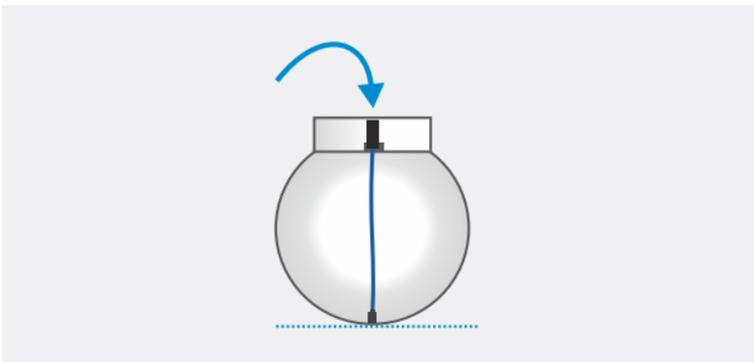

Fig. 6 | Insert the capacitive probe into the tank
**Installing the capacitive sensor:** Insert the blue measuring probe of the capacitive sensor completely into the tank and make sure that there is a minimum distance of 5 cm between the blue measuring probe and the inner tank walls in all directions. The weight of the measuring probe rests on the tank bottom. (Fig. 6)